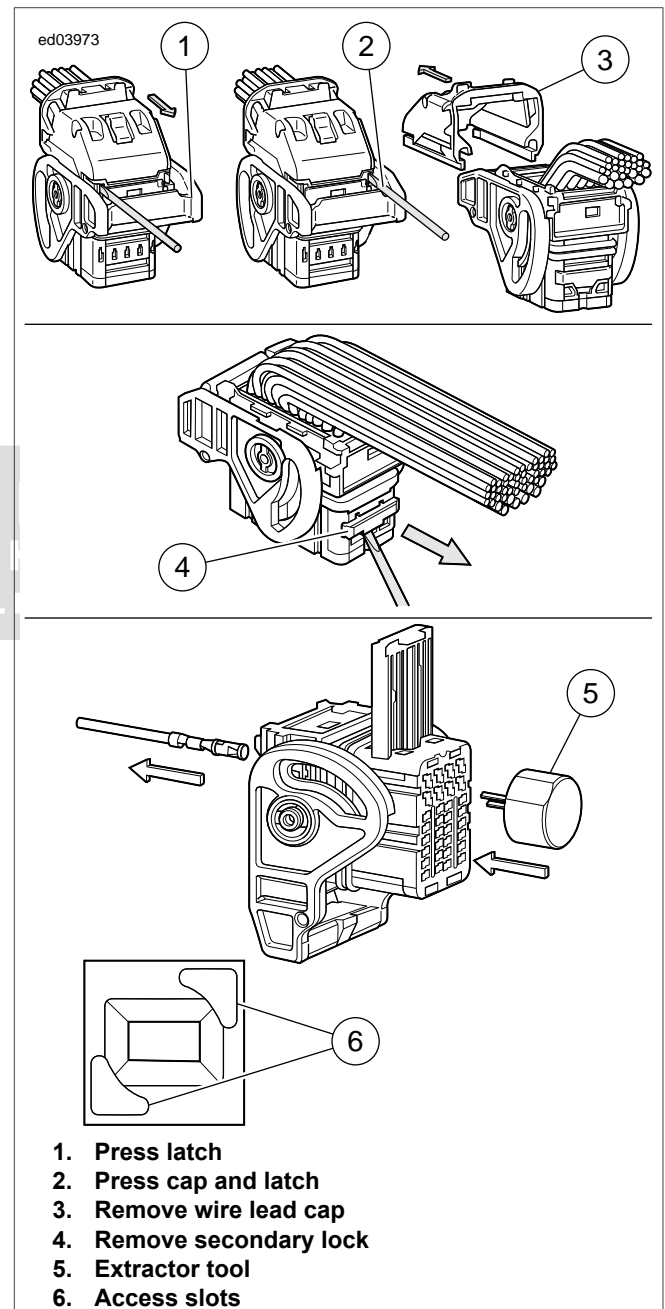

Figure B-24. Terminal Removal
2. See Figure B-24. Open a wire cap latch with a small screwdriver.